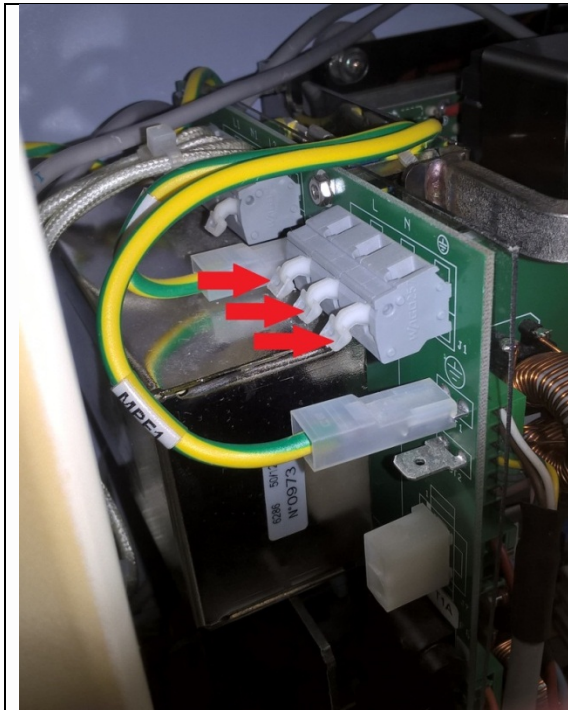
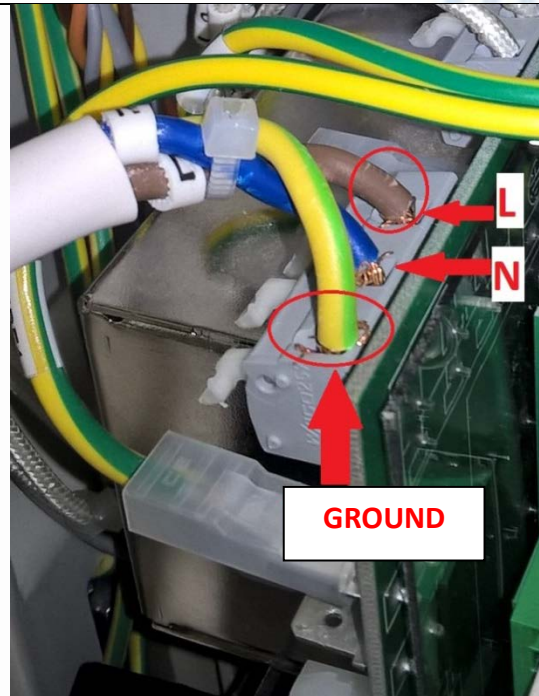

Fig. 29
Fig. 30
28. Connect the three single wires of the power supply cable to the terminal block by depressing the levers and inserting the wires. **(Fig. 29 & Fig. 30)**. Verify that the wires are correctly installed and secured in terminals by gently pulling back on each wire to ensure it's retained by the terminal block.